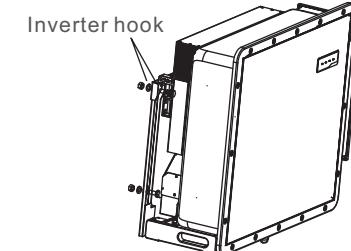

Figure 3.8 Install the inverter
1. Refer to Figure 3.8, drill holes for mounting screws based on the hole diameter of bracket using a precision drill keeping the drill perpendicular to the wall. Max depth is 3.7 in.